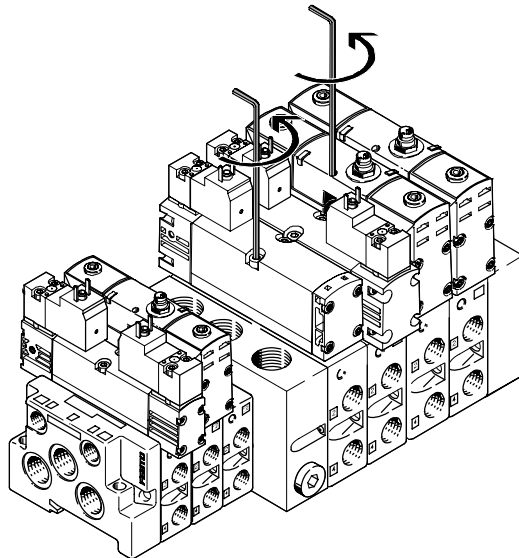

Fig. 5/1: Removing valve plates or blanking plates
- Use a screwdriver to loosen the fastening screws and remove the components from the manifold block (see Fig. 5/1).